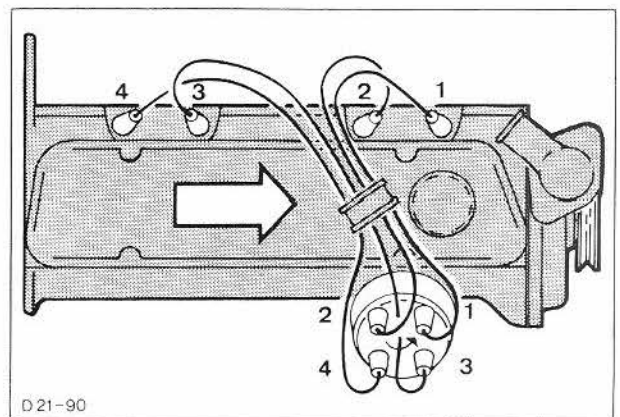

Fig. 84. HT lead arrangement (Firing order).
3. Replace rocker cover and secure. Connect HT leads, Fig. 84. and fit air cleaner.